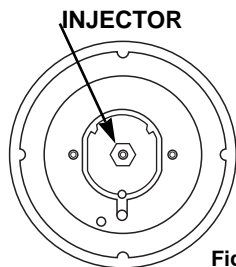

Fig. 6
- insert on hexagonal spanner (7 mm) into the burner support (Fig. 6)